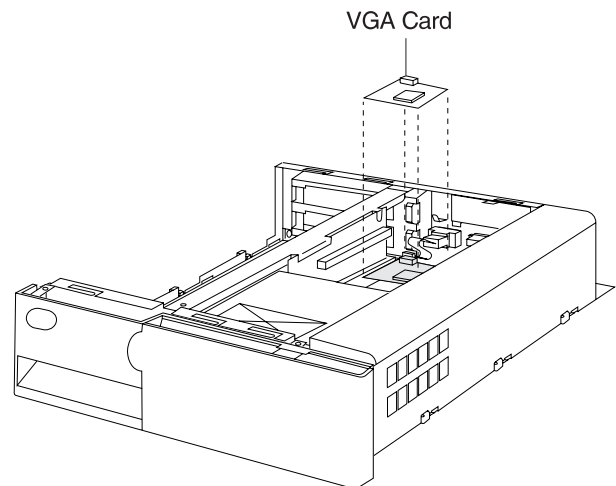

Figure 2-3. VGA Card Removal
- 5** If the VGA card is installed on the system board, unplug and lift it off the board. See Figure 2-3 on page 2-13. The VGA card is to be reinstalled on the replacement system board before it is placed into the chassis.